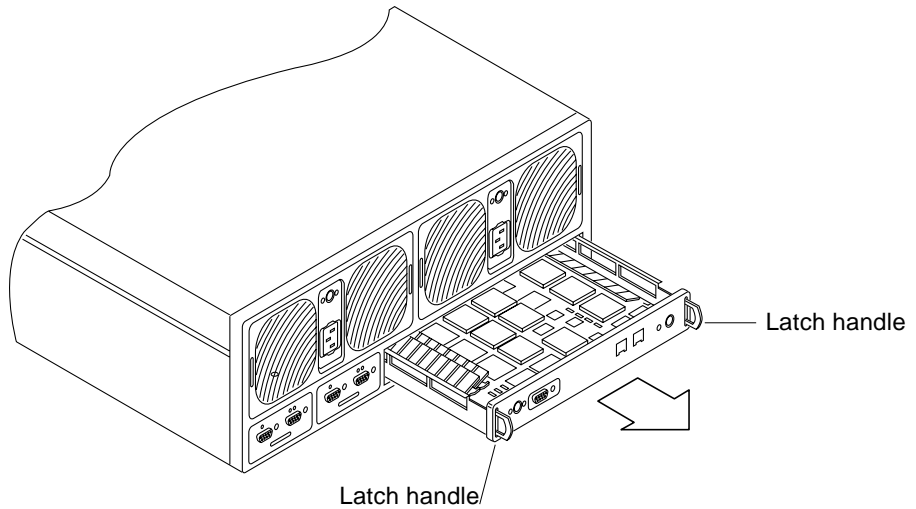

FIGURE 1-5 Removing the Controller Card From the Array
3. **Unlock the controller card by pushing in on the latch handles shown in FIGURE 1-5 with the latch release tool.**